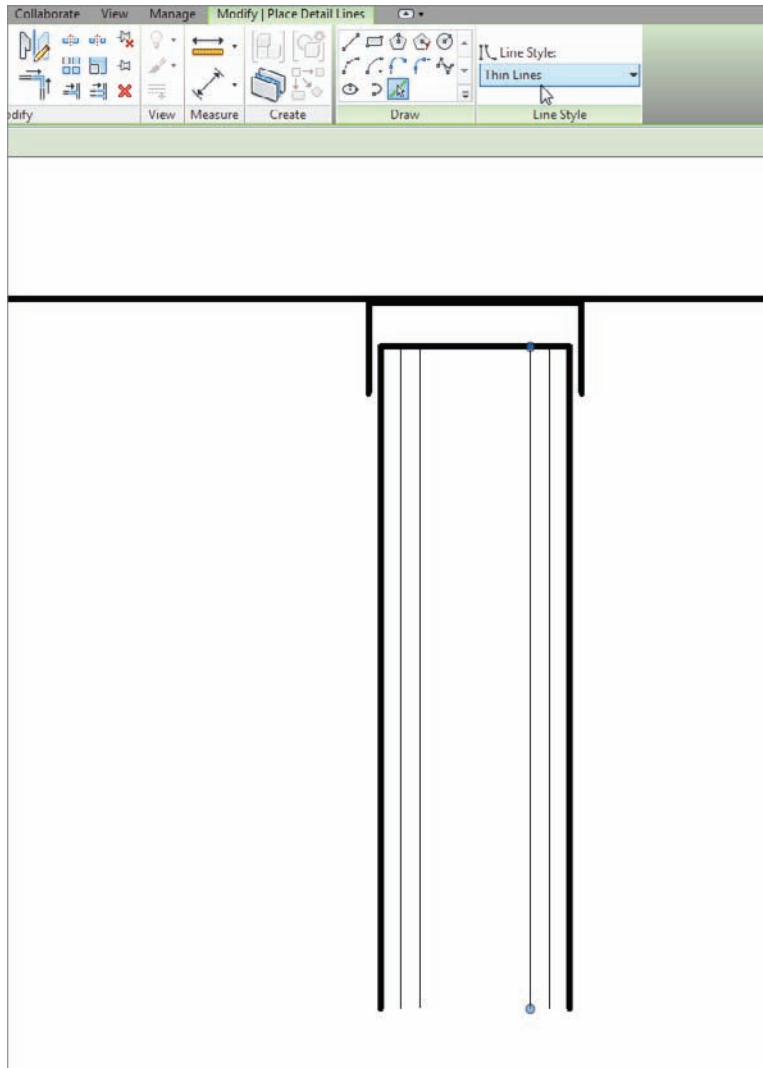

FIGURE 12.69 Adding the lines for the gypsum
3. On the Draw panel, click the Pick Lines icon, as shown in Figure 12.69.
5. Offset two lines in from the right and the left (see Figure 12.69).